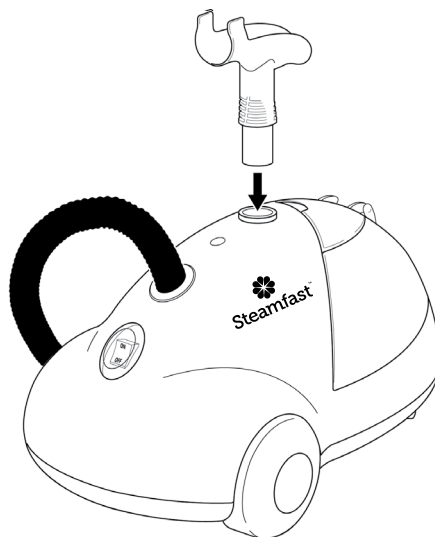

FIGURE 7
1. Insert Carry Handle into hole on top of unit. Align handle so that grip bracket faces towards front of unit (FIGURE 7).